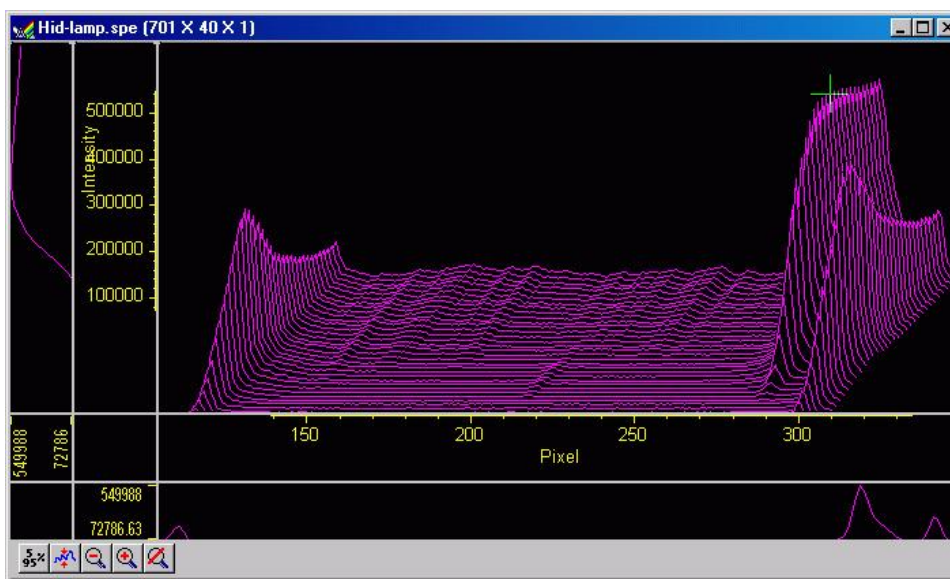

Figure 80. Hide-lamp.spe 3D graph expanded to show defined region
- Click on  (Zoom In). The view will change so that only the selected region is displayed as shown in Figure 80.